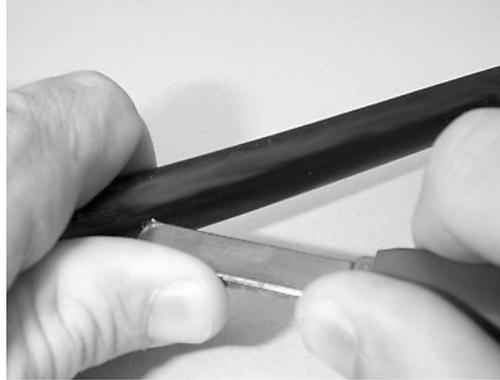

Figure 12 - Make a longitudinal cut at the end of the cable.
4.14 Make a longitudinal cut between the second ring cut and the end of the cable. Remove the 5-inch section of inner cable jacket (Figure 12).